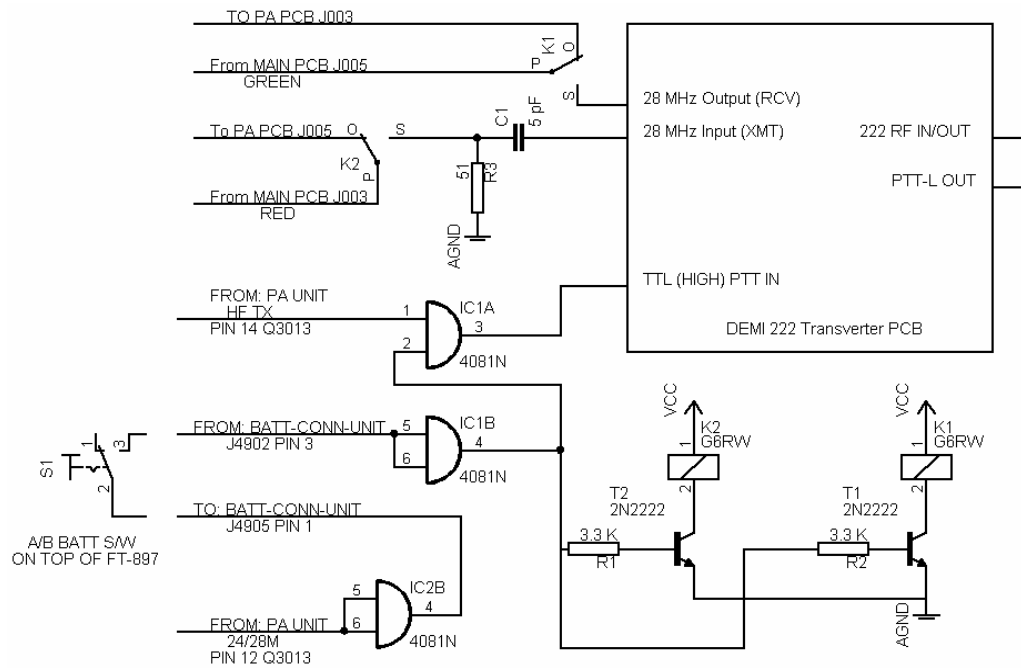
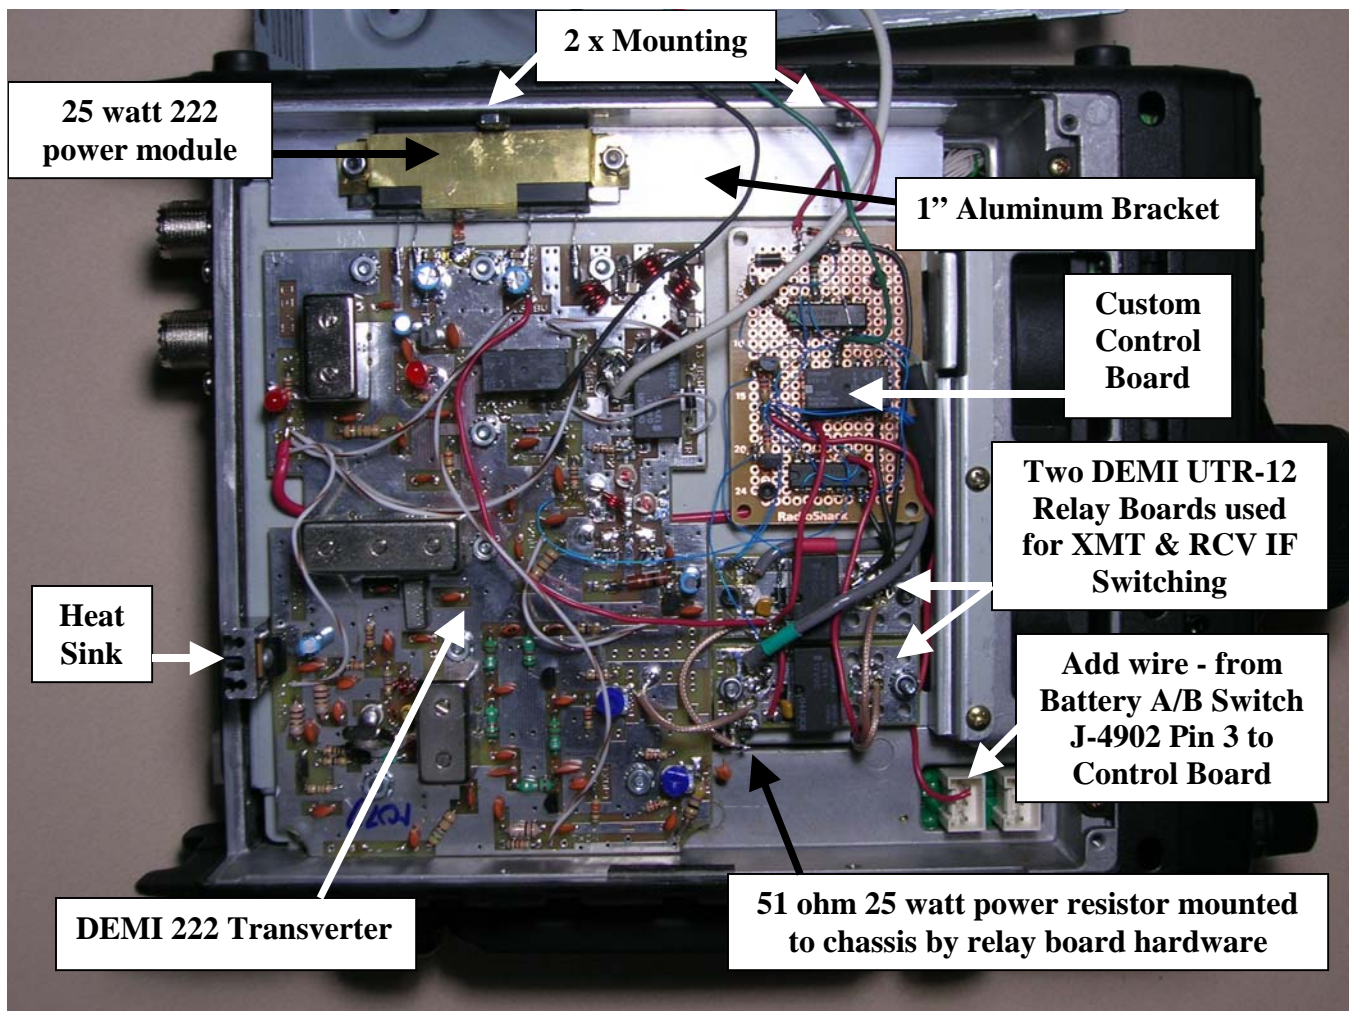
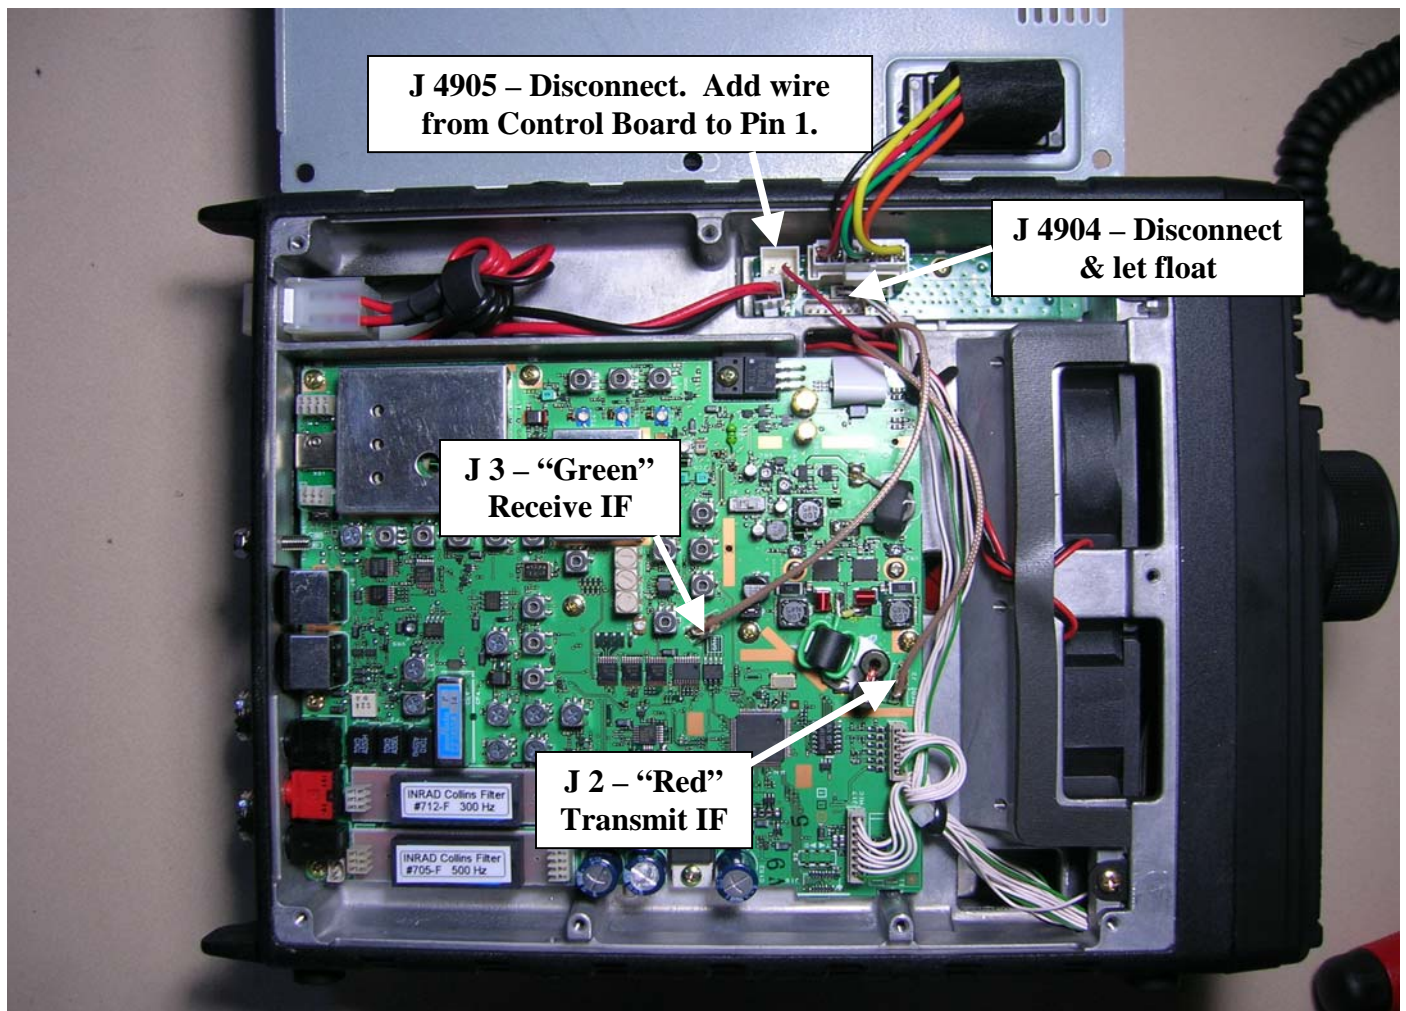

Figure 1 - Schematic For Custom Control Board
Figure 2 – FT-897 Bottom View (Battery Bay) With Added Transverter
Figure 3 – FT-897 Top View Showing XMT & RCV IF Lines Along With A/B Battery Switch Modifications.
Along with adding the DEM transverter and two IF relays, the design includes a small custom circuit board for control. The custom control board schematic is shown in Figure 1. Understanding how the control circuit works helps to understand the basic modification. Please review Figure 1 while you read the next several paragraphs.
Looking at Figure 1 you can see that the two RF relays are controlled by the effective ANDing of two inputs. The first input is the position of the FT-897’s A/B battery select rocker switch while the second signal is an internal control signal that is active whenever the user selects the 10m band.
ANDing the same signal from above with a second control signal that is generated on the FT-897's PA board achieves 222 MHz PTT control. That second signal is the "HF TX" signal. The ANDed signal creates a PTT-H (PTT high) signal that is used with the DEM PTT-H input control (see Figure 1).
- Step 2. Mechanical modifications (Reference Figure 2). Remove the top and bottom covers to the FT-897. With the radio upside down, identify the shield plate that forms the bottom of the battery compartment. It is held in place with eight screws. Remove these eight screws and lift off the plate exposing the PA board underneath. You will need to determine how the transverter will mount onto this plate, along with the two RF relay boards and the custom control PCB. You will need to consider how the transverter will fit while still allowing access to the eight mounting screws. Don't forget to add a heat sink to the DEM transverter's 9 vdc regulator as the heat sink will occupy some space. It is best to lay the two relays, the transverter board, the customer circuit board, and the 222 power module all inside the radio before you start to drill holes. The 222 MHz power module is attached to a length of 1" aluminum angle bracket that is itself then attached to the side of the FT-897 using the two tapped holes that are intended for the mobile bracket. I did have to file down the top of the aluminum bracket just a little bit in order for the bottom cover to properly fit. It's best to mock up the planned layout, then lay the cover back on to see if it will indeed all fit as intended. Once you have determined how the boards will be positioned mark and drill holes accordingly. In my design I used 4-40 hardware to mount the DEM transverter PCB to the shield plate much like how DEM mounts their boards inside their box. The SO-239 panel mount can be mounted in one of the two battery connector holes that are protected with a plastic knock-out. Simply remove the plastic knock out and drill the necessary mounting holes. As you are marking the location for drilling any holes, make sure that you double check for interference issues when you go to reassemble the radio. It is best to complete all the mechanical modifications before proceeding onto the electrical modifications.
- Locate the battery selector PCB and lift connectors J 4904 and J 4905 (see Figure 3). This will electrically isolate the rocker switch from its intended function. The connectors can be allowed to float.
- Review Figure 3 and find the two IF lines. The receive line is connected to J3 and has a green band on it while the transmit line is connected to J2 and has a red band on it. Disconnect these two lines and route them to their appropriate relay (see Figure 2). I cut the little stock mini-connector off of mine and solder then directly to the DEM UTR-12 PC board. You will need some mini-coax to then run from the normally closed contacts back to J2 and J3 on the main board. On the receive IF line, the normally open relay contact is connected directly to the transverters 28 MHz receive port. On the transmit IF line the normally open relay contact is connected to a 25 watt, 51 ohm RF power resistor to dissipate the 10 watts that is present. I mounted my power resistor to the shield plate where it is held in place by the same hardware that holds one of the UTR-12 relays. A small 5 pf capacitor is then connected from that point to the transverters 28 MHz transmit input port.
- Connect the A/B battery select rocker switch as follows. Connect a wire from the control board (per the Figure 1 schematic) to the battery board J-4902 connector, pin 3 (see Figure 2) and battery board connector J-4905, pin 1 (see Figure 3).
- Finish all wiring. Connect the appropriate line from the control board (Figure 1) to the DEM transverter PTT-H line. Also make sure that the transverter board is connected to 13.8 vdc. I installed the PWR and XMT LEDs on the DEM transverter board to help me detect proper operation.